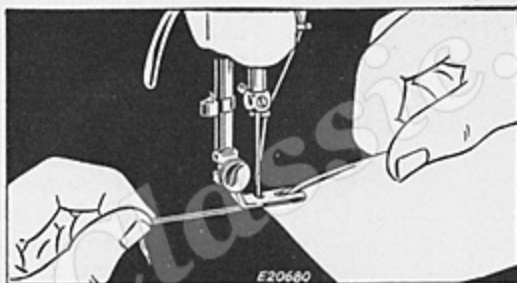

Fig. 62. Starting Hem at very end of Material
- (3) Raise hemmer. Pull threads and hem slightly from you with left hand, then while holding threads, draw material toward you with right hand and guide material into scroll of hemmer until tacked end is caught in hemmer, as shown in **Fig. 62**.